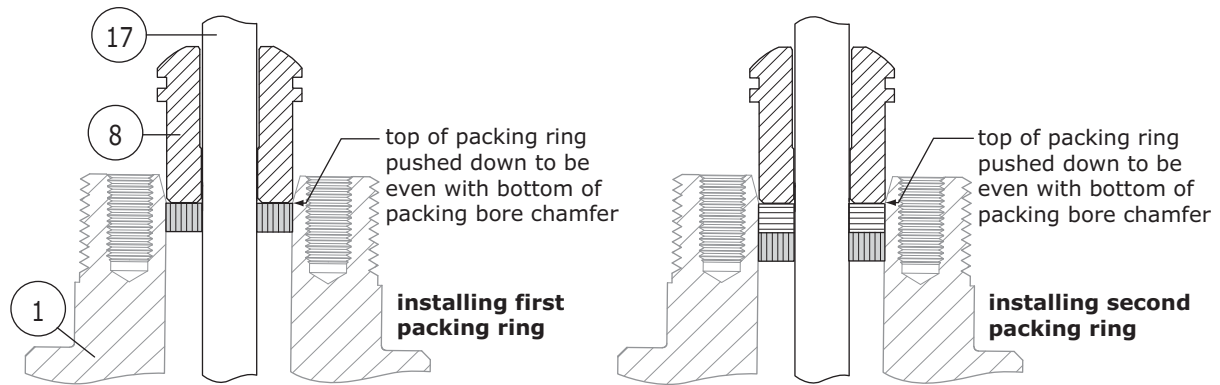

Figure 7 Packing Ring Installation
**To prevent trapping air when installing packing rings it is necessary to add packing rings one at a time. Do not force packing rings below the chamfer of the packing bore before adding another ring. Packing should not be pushed down more than the thickness of the added ring (See Figure 7).**